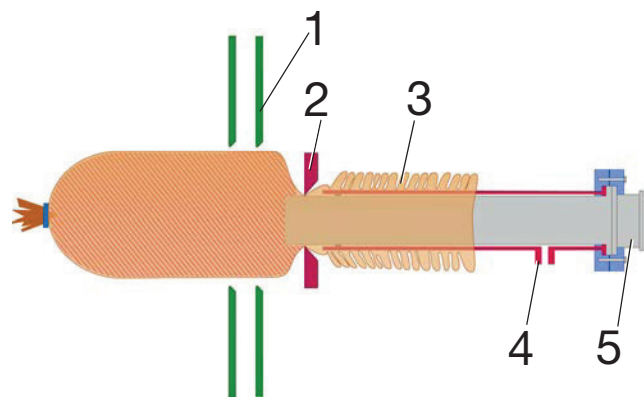

Fig. 2-19 1 Separator
Special vacuum casing brakes (2) are required for the vacuum system. The functions of movable casing brake holders are limited by the vacuum system. (Fig. 2-19)